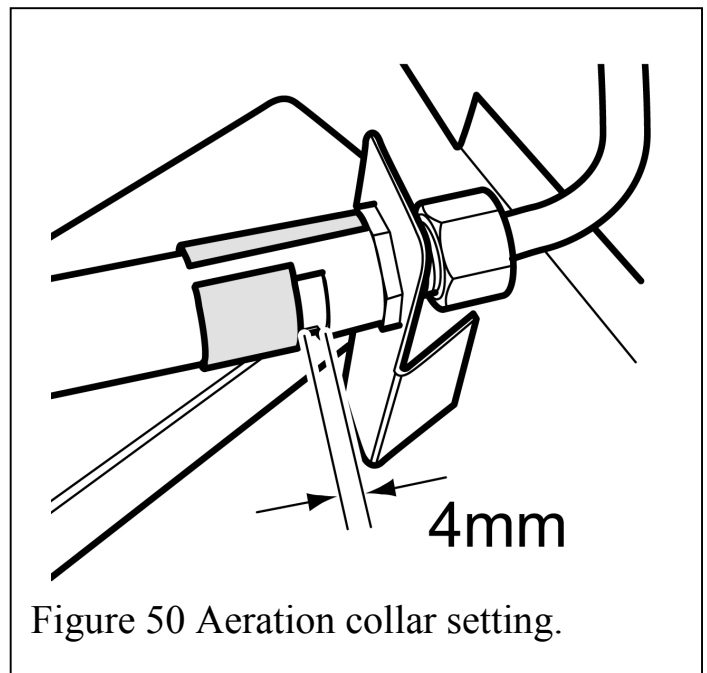

Figure 50 Aeration collar setting.
- The aeration collar is factory set. If the gap at the rear of the mixer tube is different to that shown in figure 50 see below.
- The aeration collar should be positioned so that the opening in the rear of the mixer tube is partially closed. Slide the aeration collar towards the injector as far as it will go. The gap should be 4mm (See figure 50).